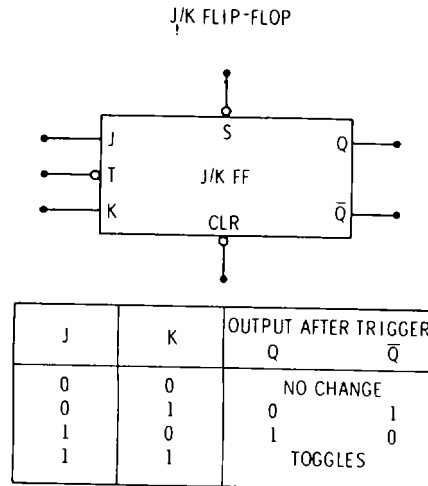

Figure 8-5. D-Flip-Flop
8-46. D Flip-Flop. The D-type flip-flop, shown in Figure 8-5, is used as a storage latch or buffer. The information at the data input (D) is transferred to the Q output when the trigger input (T) is high-going. Once the T input has passed its threshold, the D input is locked out and the Q outputs do not change until another high-going transition occurs at the T input.